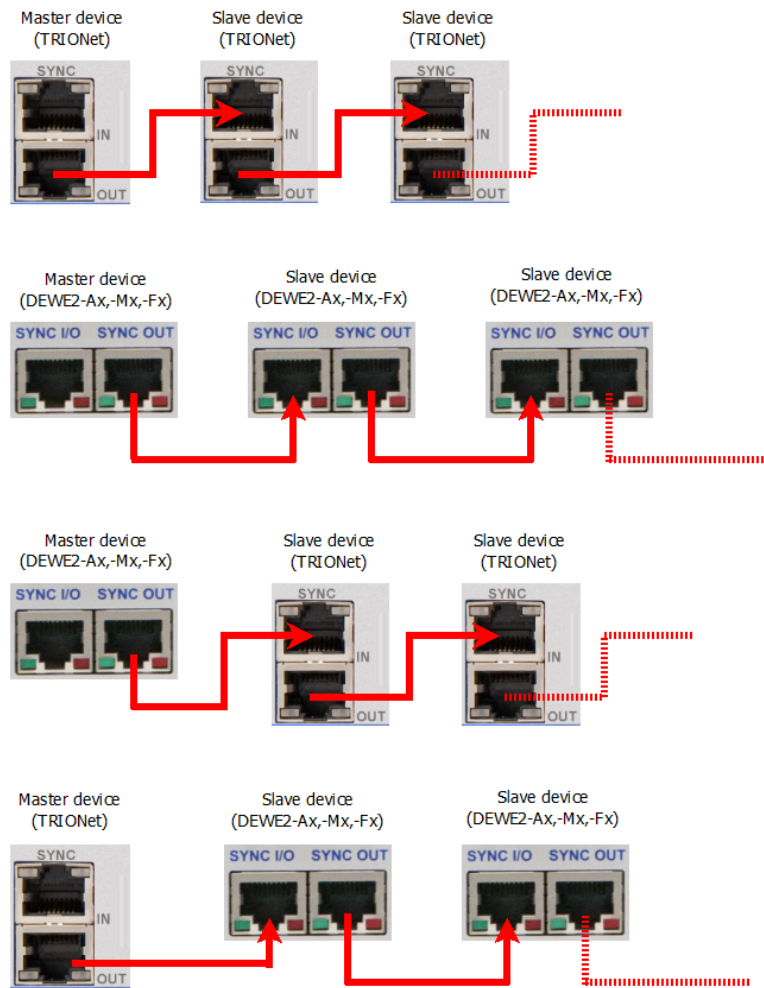

Fig. 15.18: Sync wiring of different OXYGEN-NET system variants
- The Master measurement unit must be the Sync master within the OXYGEN-NET system. Therefore, connect one end of the Sync cable to a *SYNC OUT* or *SYNC I/O* connector of the Master unit and connect the other end to a *SYNC IN* or *SYNC I/O* connector of the Slave unit. The Sync signal can be daisy chained to several Slave units (see Fig. 15.18).
- If the sync wiring is incorrect, the background color of the *SYNC indicator* will be orange and the message *Waiting for sync* will be displayed in the lower right corner of the software (see Fig. 15.24). If this appears, make sure that the sync wiring is correct. For further information, refer to *OXYGEN-NET Menu – Sync* and Fig. 15.18.